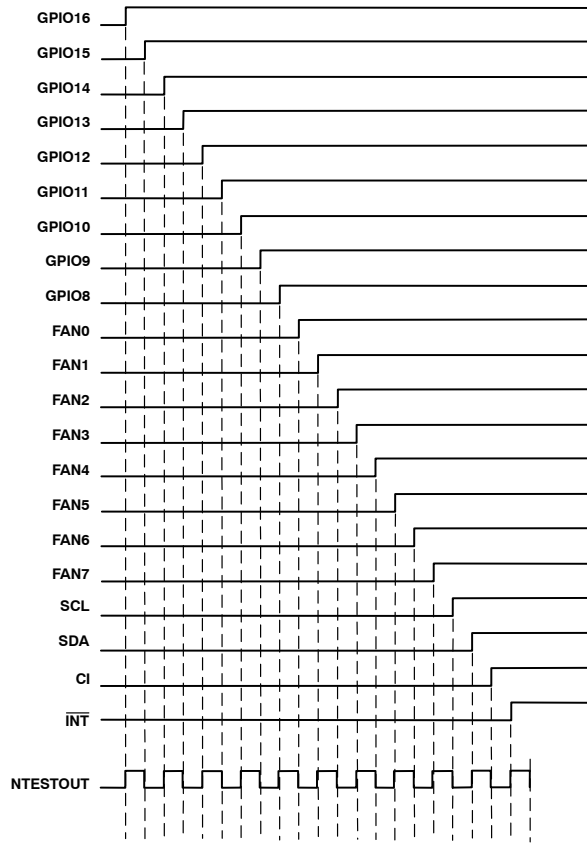

Figure 56. NAND Tree Test Taking Inputs High in Turn
1. Start with all inputs low and take them high in turn, starting with the input nearest to $\overline{\text{NTEST_OUT}}$ (GPIO16/ $\overline{\text{THERM}}$) and working back up the tree to the input furthest from $\overline{\text{NTEST_OUT}}$ ($\overline{\text{INT}}$). This should give the characteristic output pattern shown in Figure 56, with $\overline{\text{NTEST_OUT}}$ toggling each time an input is taken high.